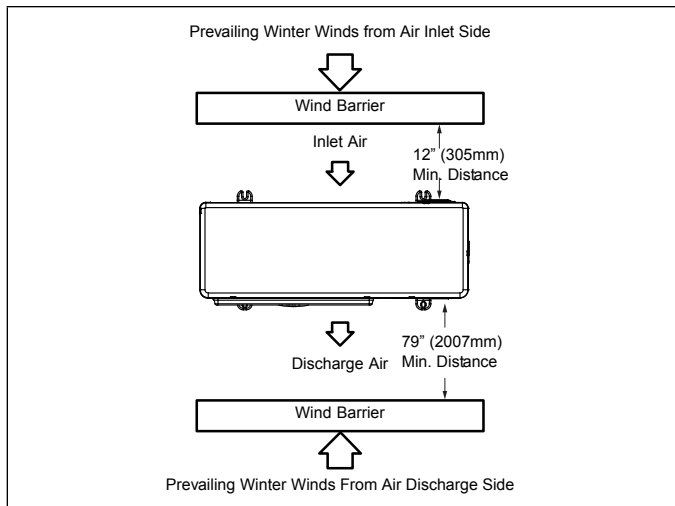

Figure 11. Wind Barrier
- When prevailing wind is into the discharge side, then position the wind barrier a minimum 79 inches (2007 mm) from the front of the unit as illustrated in “Figure 11. Wind Barrier”.